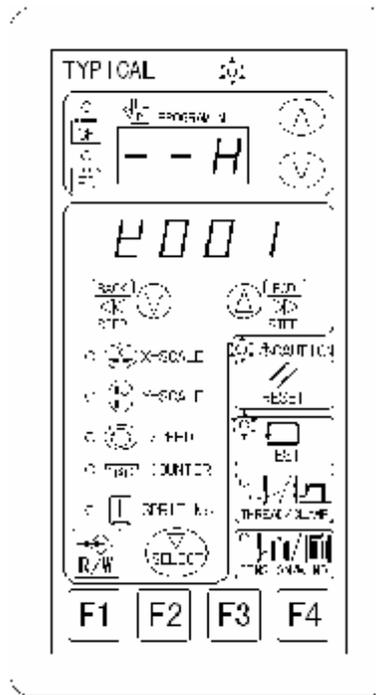
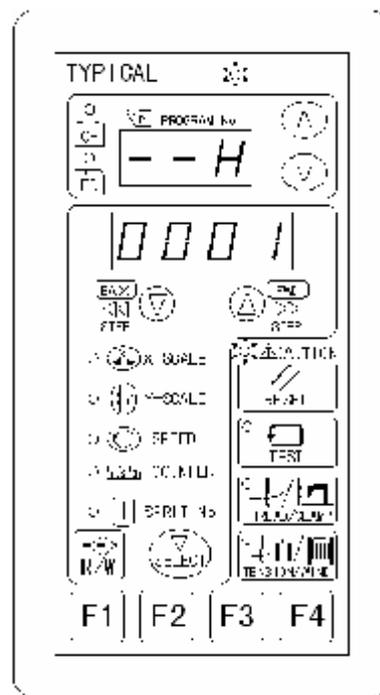

Fig. 6-18
Fig. 6-19
2. Lower the needle by hand wheel, and stop when it almost contacts “origin” position in the template. Use arrow key to move machine needle from origin to point A, with operation panel shown as Fig. 6-18 in moving process. And [K001] displayed on menu display indicates the key point. After moving to point A, press  key to confirm point A, with operation panel as shown in Fig. 6-19 and [0001] displayed on menu display showing the first needle.